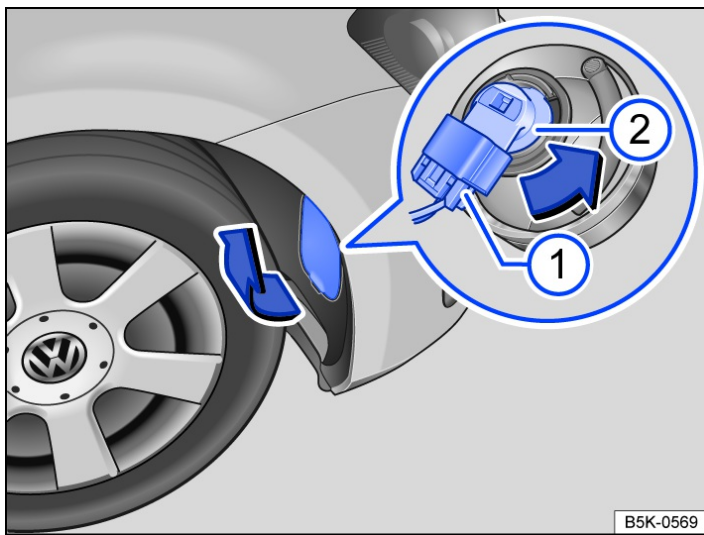

Fig. 1 In the front bumper on the right: replacing the bulb in the headlight.
- ① Connector.
- ② Bulb holder.
1. Carefully pry off the cover in the direction of the arrow with a suitable screwdriver → *fig. 1*.
2. Release the connector → *fig. 1* ① and disconnect it → *fig. 1* ①.
3. Turn the bulb holder counterclockwise up to the stop and remove it toward the rear with the bulb → *fig. 1* ②.